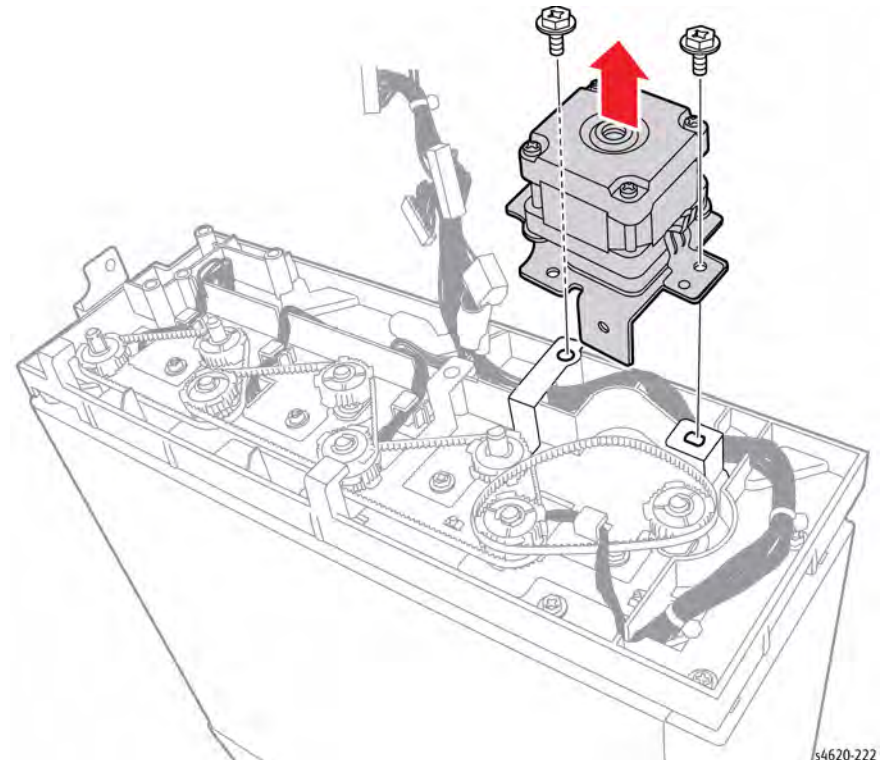

Figure 3 Mailbox Drive Belt configuration
7. Remove the damaged belt, Figure 3.